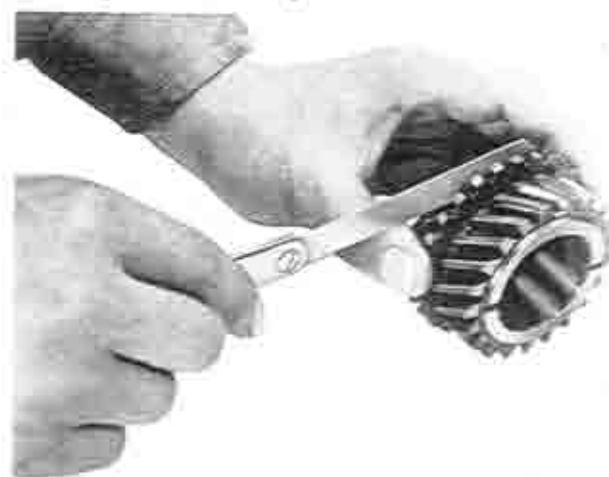

Fig. 7A-7 Checking of synchronizer ring
2. Inspect the synchronizer ring for wear. To check the wear of the synchronizer ring, fit the synchronizer ring evenly to the gear cone and measure the clearance between the side faces of the synchronizer ring and the gear with a feeler gauge, as shown in Fig. 7A-7. If it is less than 0.8 mm (0.032 in), replace the synchronizer ring or gear. The standard clearance is 1.5 mm (0.060 in).